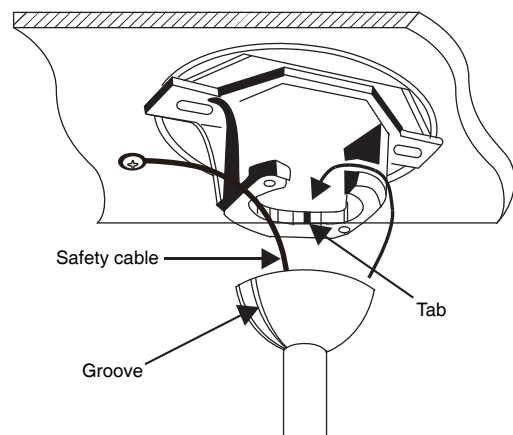

Fig. 6
5. Carefully lift the fan assembly up to the ceiling mounting bracket and seat the hanger ball in the mounting bracket socket. Make sure the tab on the mounting bracket socket is properly seated in the groove in the hanger ball (Fig. 6). This will help to balance the ceiling fan.
Warning: The tab in the ring must rest in the groove of the hanger ball as fig. 6. Failure to properly seat the tab in the groove could cause damage to wiring.